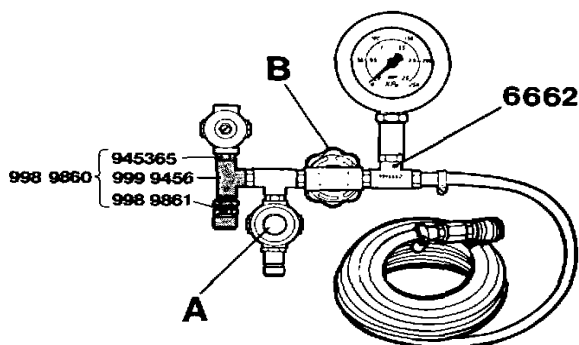

Fig. 20. Pressure-testing device
Check that the relief valve and other parts are assembled as in fig. 20.
1. Check that the wheel on the reducing valve (A, fig. 20) is unscrewed and connect the pressure-testing device to the compressed air supply. Open the cock (B) and, using the reducing valve, adjust to a pressure of 100 kPa (14.5 p.s.i.) on the gauge.
2. Check that the reducing valve wheel (A, fig. 20) is unscrewed and connect the hose from the pressure-testing device to the cylinder head.
4. Connect the pressure-testing device to the compressed air supply and open the cock (B).
5. Pull out the reducing valve wheel locking ring. Increase the pressure by screwing in the wheel until the gauge shows 50 kPa (7.75 p.s.i.). Hold this pressure for 1 minute. Then raise the pressure to 150 kPa (22.25 p.s.i.). Lock the wheel by pushing in the locking ring and close the cock (B). After 1–2 minutes check if the pressure has fallen or if air-bubbles are visible in the water tank.